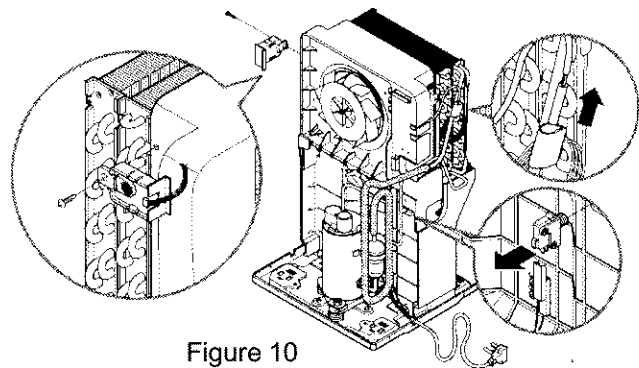

Figure 10
2. Remove the screw which fastens the humidity sensor. (See Figure 10.)